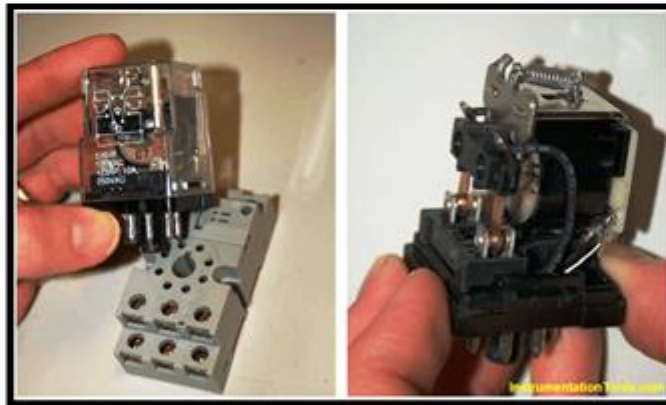

Figure 2.19: A relay plug base (left) and sets of Form-C contacts (right)
- a. The Figure 2.19 below shows the DPDT "Ice Cube" relay, which can be inserted into its base (left) and the plastic cover removed to expose two sets of Form-C contacts (right):